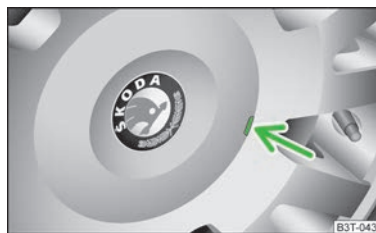

Fig. 152
- Carefully remove the wheel trim cap using the wire clamp from the vehicle tool kit » Fig. 152.